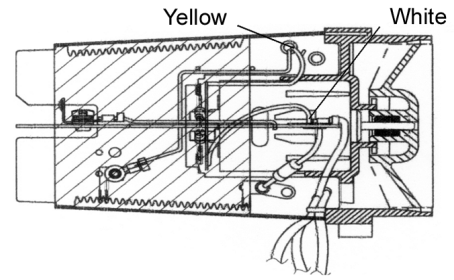

Figure 2
(1) Solder yellow and white lead wires into the heater as shown in Figure 2.